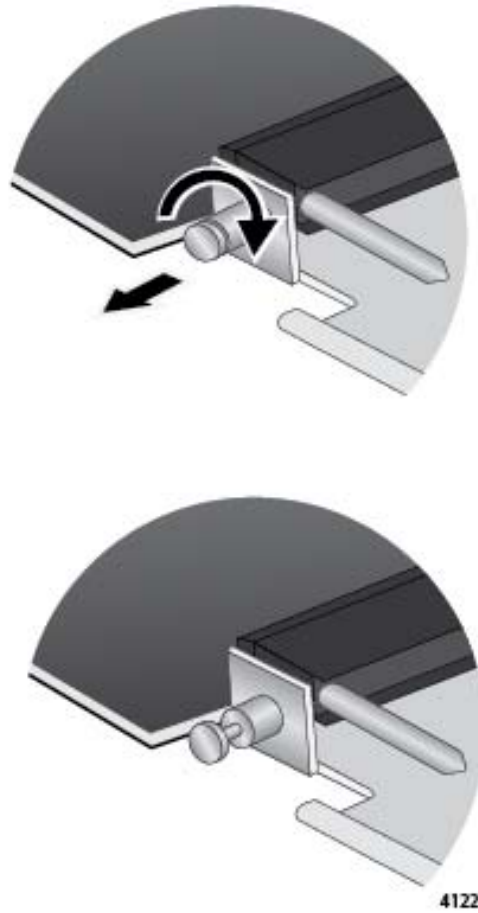

Figure 75. Retracting the Retaining Pin on the AT-SBx81XLEM Line Card
6. With your thumb and forefinger, pull out the retaining pin on the side of the line card and turn it clockwise one quarter turn so that it remains in the retracted position. Refer to Figure 75 on page 139.